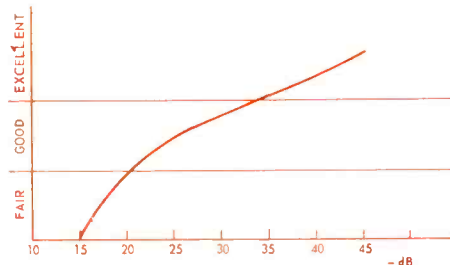

Fig. 15—Adjacent-channel selectivity
SELECTIVITY (T). This specification describes the ability of a tuner to discriminate between the desired station and stations removed in frequency by one channel-width (Adjacent-Channel Selectivity) or two channel widths (Alternate Channel Selectivity). Alternate-channel selectivity is deemed the more important of the two specifications, since the Federal Communications Commission is careful not to assign adjacent-channel frequency to two stations in one geographical area. Still, with today's ultra-sensitive tuners, adjacent-channel selectivity may also be relevant in certain areas where, with a well-designed antenna it is no longer unusual to pick up two stations just one channel width apart. Qualitative graphs indicating both adjacent-channel and alternate-channel selectivity figures are shown in Figs. 15 and 16 and, as can be seen from the figures, the higher the number of dB's, the better the selectivity characteristics.